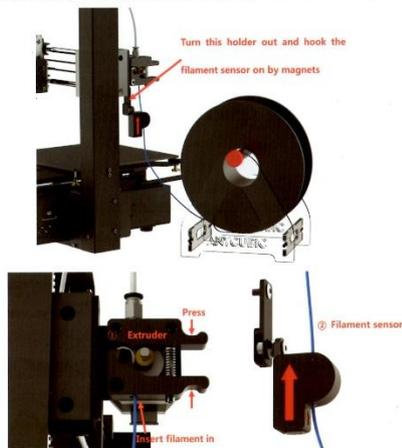

Figure 6
2) As shown in Fig.6, manually install the filament spool to the spool holder. Pass the filament through the filament sensor. Insert the filament into the extruder and Teflon tubing, but do not fully reach it into the hotend (until preheat the hotend later).
> Now, as the temperature rises, please manually insert the filament through the Teflon tubing all the way into the hotend. (Refer to previous Fig.6)